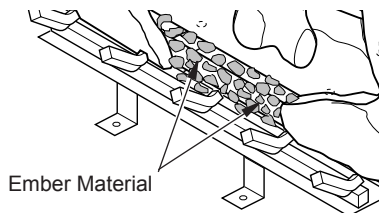

Figure 46 - Placing Ember Material on Burner
- Pull ember material apart into pieces no larger than a dime. Place these pieces loosely and sparingly directly onto exposed section of front burner and along space between burner and grate prongs (see Figure 46). This will create the glowing ember appearance as the flame touches the ember material. Do not block air slots by using too much ember material in one area. Place small pieces of ember material to cover pilot ports. It is not necessary to use all of the ember material provided.